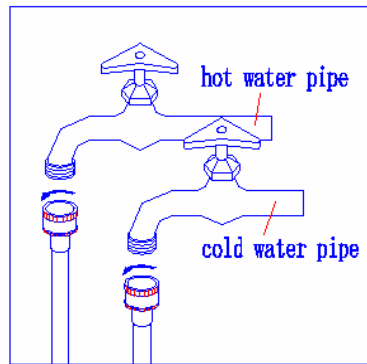
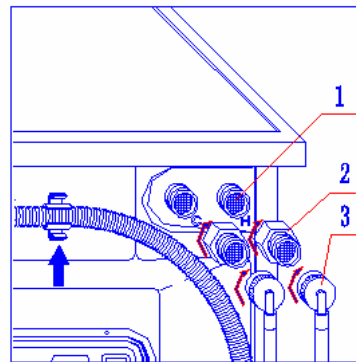

Fig 1
Fig 2
Please read the following steps carefully (Fig.1, Fig.2)
1. Connect the *gray* end of the hot-water hose to the hot-water faucet (Fig.1).
2. Connect the *gray* end of the cold-water hose to the cold-water faucet (Fig.1).
3. Connect two pressure-reducing valves [2] to each inlet valve [1] (see Fig.2).
4. Connect the *white L-shaped* end of hot-water hose to the pressure-reducing valve connected to the inlet valve marked "H" (Fig.2).
5. Connect the *white L-shaped* end of cold-water hose to the pressure-reducing valve connected to the inlet valve marked "C" (Fig.2).